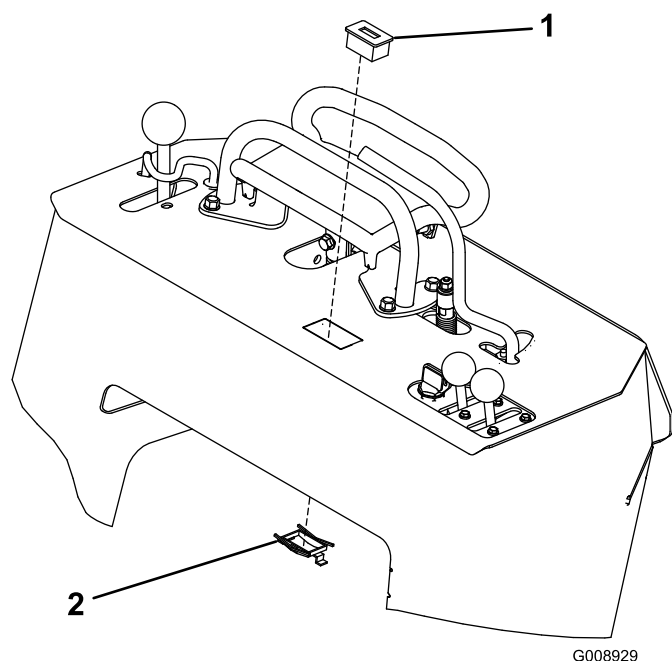

Figure 1
3. Remove the retainer from the hour meter (Figure 1).
4. Slide the hour meter into the control panel and then snap the retainer onto it from below to secure it (Figure 1).